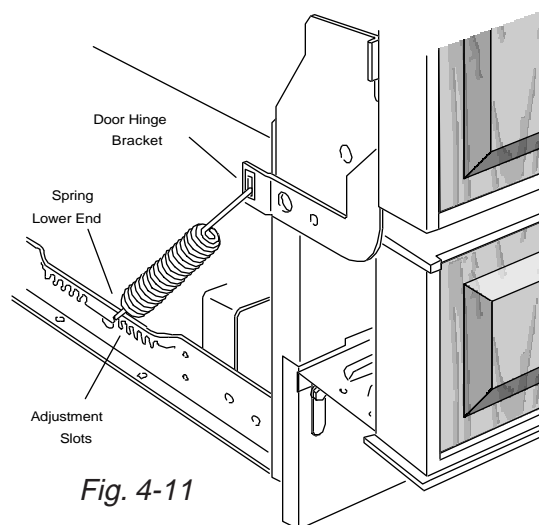

Fig. 4-11
3. Close and lock the dishwasher door. Remove a spring from one side by releasing the lower hook from the adjustment slot first, then disengaging the upper hook from the door hinge bracket. (Fig. 4-11)
4. Install a heavy duty spring. Insert the smaller hook through the door hinge bracket first, then engage the larger hook in the first notch of the second group of adjustment slots. (Fig. 4-11)
6. Open and close the door several times. The door should open and close easily. If the door closes too quickly, decrease the spring tension by moving the lower hook of each spring one (1) notch toward the back of the dishwasher. Springs should be in the same position on the left and right sides. Perform the Door Operation Tests again. Continue to adjust the door spring tension as necessary until the Door Operation Tests confirm proper spring adjustment.